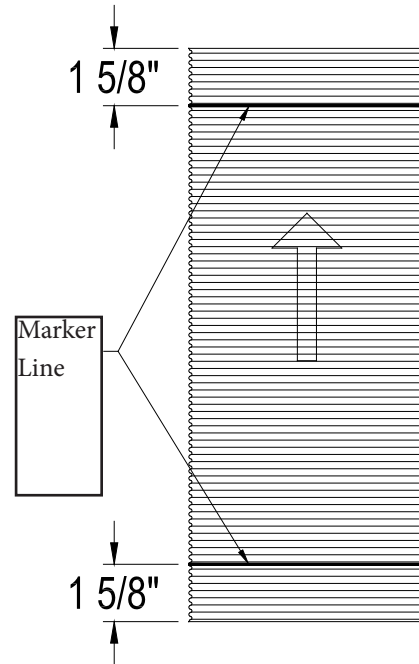

Figure 16 - DuraSeal Flex marker line
1.1. If cutting the liner on the field is required, make sure the cut is square. Make a marker line on both ends of the liner at 1 5/8" from each end. That mark will act as a reference point when the adapters are fully seated onto the flex liner. (**Figure 16**).